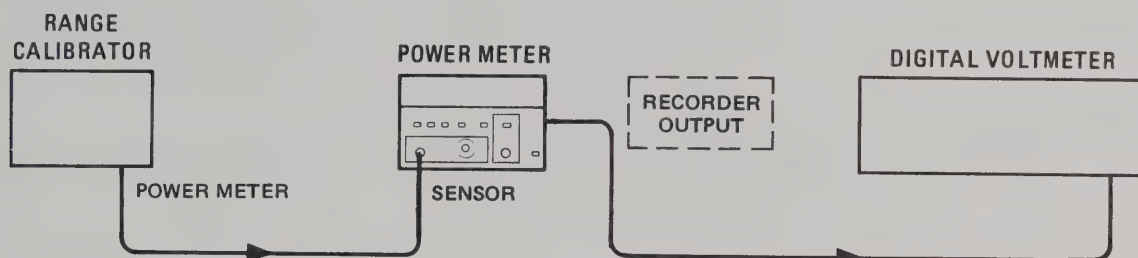

Figure 5-5. A-D Converter and Linear Meter Adjustment Setup
- Connect the equipment as shown in Figure 5-5.